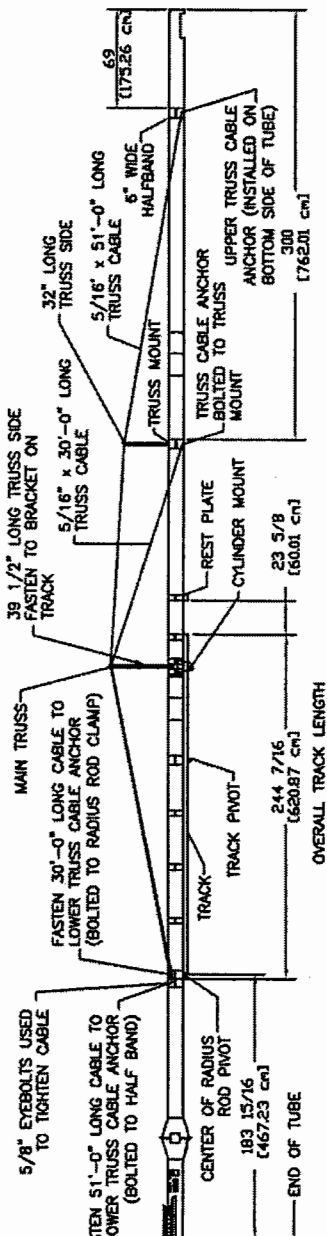

FIG. 40
See Fig. 40 on page 32 for location of track, truss and undercarriage components.
- Step 8. On 52' models fasten the undercarriage rest plates to the tube with a 4" wide halfband and four 3/8" x 1 1/2" (grade 5) hex head capscrews and nylon locknuts. See Fig. 40 on page 32 for location.
See Fig. 40 on page 32 cable lengths, truss mounts and cable anchor locations.